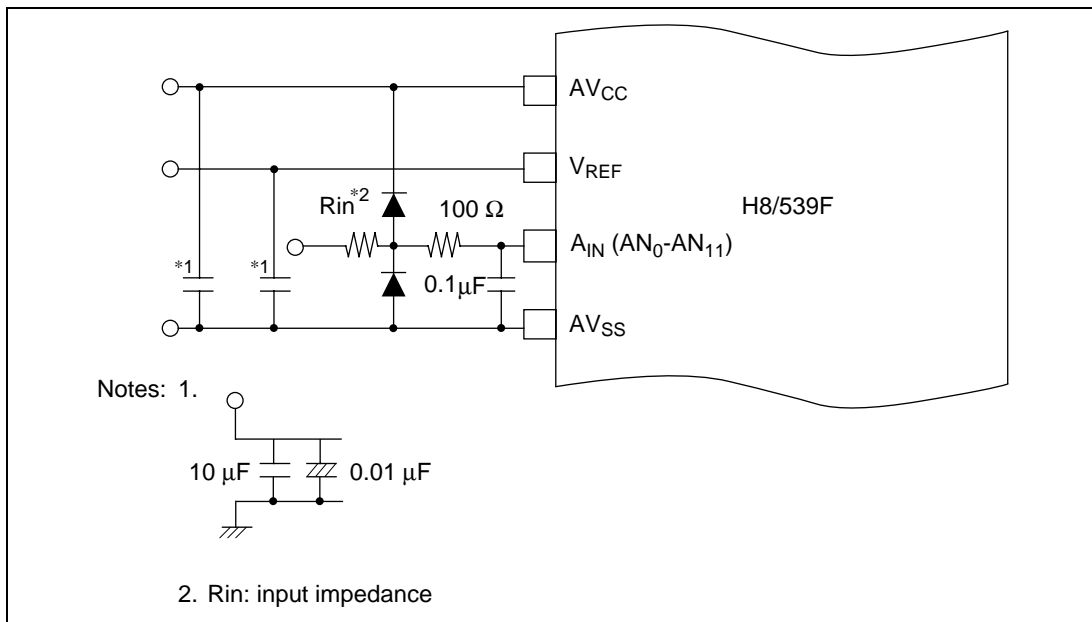

Figure 15-9 Example of Analog Input Protection Circuit
(5) Note on Noise: To prevent damage from surges and other abnormal voltages at the analog input pins (A_{IN}) and analog reference voltage pin (V_{REF}), connect a protection circuit like the one in figure 15-9 between AV_{CC} and AV_{SS} . The bypass capacitors connected to AV_{CC} and V_{REF} and the filter capacitors connected to A_{IN} must be connected to AV_{SS} . If filter capacitors like those in figure 15-9 are connected, the voltage values input to the analog input pins (A_{IN}) will be smoothed,